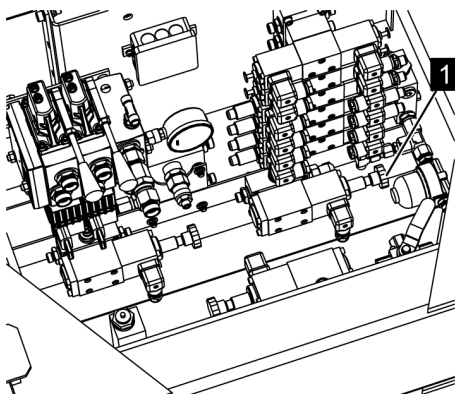

Fig. 115: Shuttle valve
After service operation, unlock the shuttle valve (Fig. 115/1).
- Make sure that the shuttle valve (Fig. 115/1) is completely unlocked for normal operation.